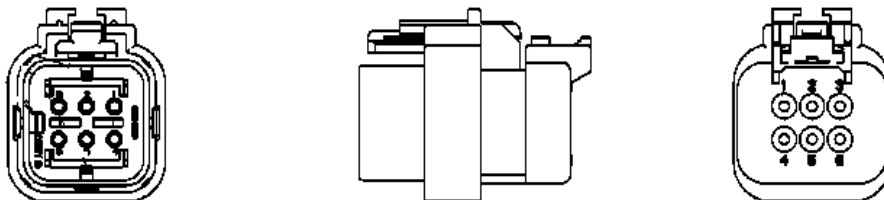

Figure 9.2 DPF Soot Sensor Interface Connector
This sensor currently uses a 6-pin, key 3 receptacle. The part number for the mating connector is 281-8811 as shown in Figure 9.2 and table 9.1.